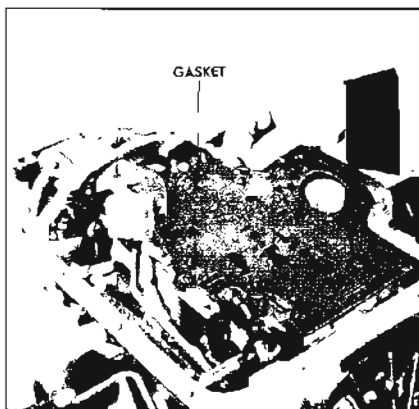

Figure 5-514
4. Remove the control valve assembly to spacer gasket. See Figure 5-514.